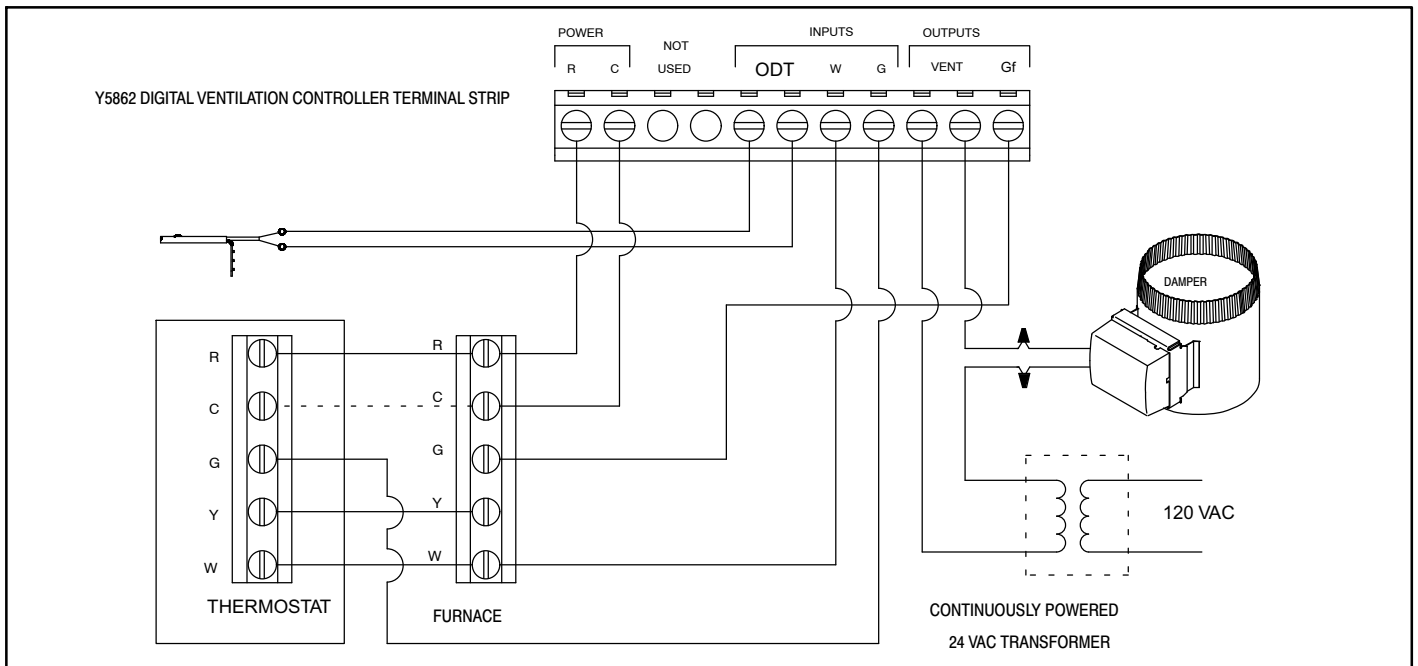

Figure 6. Wiring the Digital Ventilation Controller (Conventional 24VAC Thermostat Used)
remove any existing **R**, **C**, and **W** leads already connected. See figure 6 for the terminal locations.
The normally closed damper should be wired in series with a continuously energized 24VAC transformer (provided) and connected to the terminals labeled **VENT** of the digital ventilation controller. See figure 6.
- Strip wire 1/4 inch, and insert the field wires from the sensor into the terminals labeled **ODT** on the digital ventilation controller. See Figure 6 for terminal locations.